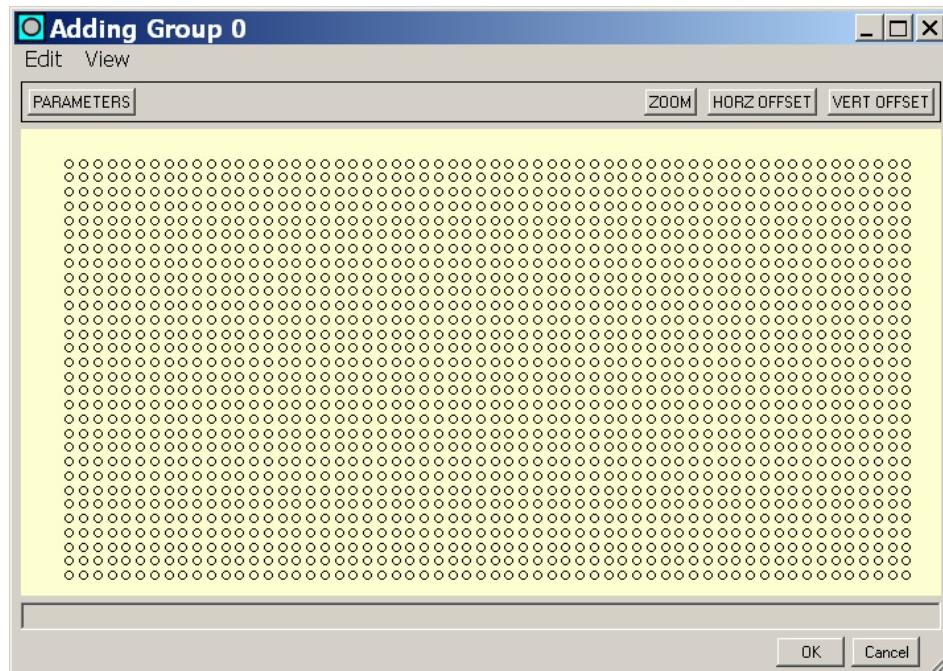
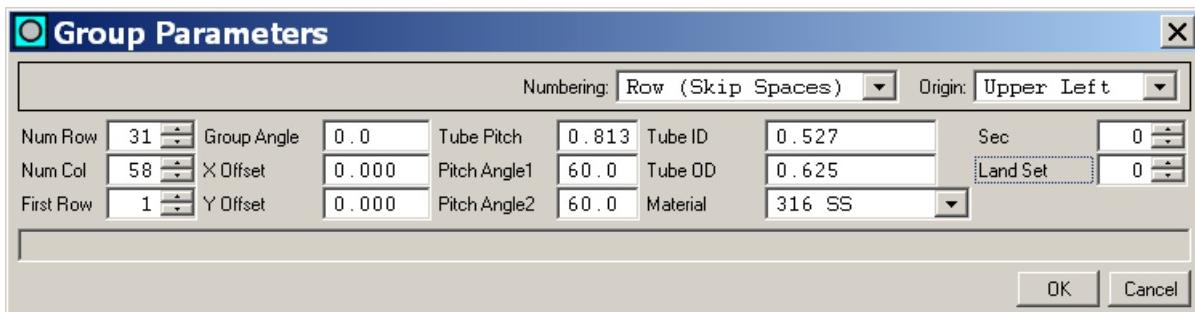
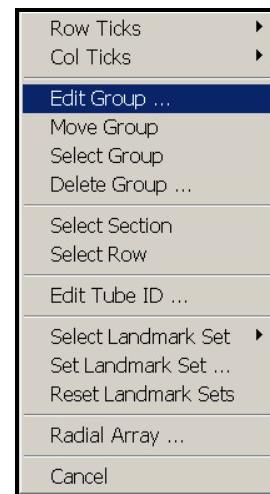

Figure 36. Adding Group Dialog
Figure 37. Group Parameters Dialog in the Adding Group Dialog
Figure 42. Popup Menu on Main MakeComp Window (Right-click Map)
Selecting the **ADD GROUP** button in Figure 21 causes the **Adding Group** dialog shown in Figure 36 to appear. The circles in the window indicate possible tube locations. A circle represents a *disabled* tube location on the *building grid* while a black filled circle indicates an *enabled* tube. This dialog is used to:
Clicking the **Parameters** button on the **Adding Group** dialog shown in Figure 36 causes the **Group Parameters** dialog shown in Figure 37 to appear. All the necessary details about a new group of tubes should be entered on this dialog before building the group; however, they can be entered anytime. These parameters define the building grid that will be created in the **Adding Group** dialog. Each parameter on this dialog is defined below. Please refer to Figure 37 as each parameter is described.
- **Num Row:** Enter a number slightly greater than the actual number of rows in the group of tubes being built. For example, the feedwater heater shown in Figure 1 has a total of twenty-one (21) rows in the inlet leg (lower half). For this group, a value of thirty-one (31) would work well in the **Num Row** field as shown in Figure 37. This value simply defines the number of rows that will be available on the resulting *building grid* in the **Adding Group** dialog. Any of these parameters on this dialog may be edited at anytime – even after the tubesheet map has been completed – in order to *fine tune* the final appearance of the main tubesheet map.
- **Num Col:** Enter a number slightly greater than the actual number of tubes in the longest row of the group being built. For example, the feedwater heater shown in Figure 1 has a total of forty-six (46) tubes in the longest row (*Row 3*) in the inlet leg (lower half). For this group, a value of fifty-eight (58) would work well in the **Num Col** field as shown in Figure 37. This value simply defines the number of columns that will be available on the resulting *building grid* in the **Adding Group** window.
The **HORZ OFFSET** button shown in Figure 36 allows the user to move enabled tubes to the left or to the right on the *building grid*. Care should be exercised when using this feature since enabled tubes will be deleted if moved beyond the perimeter of the *building grid*. The button is used as follows:
The **VERT OFFSET** button shown in Figure 36 allows the user to move enabled tubes up or down on the *building grid*. Care should be exercised when using this feature since enabled tubes will be deleted if moved beyond the perimeter of the *building grid*. The button is used as follows:
To duplicate an existing group of tubes, right-click the desired group on the tubesheet map displayed in the main **MakeComp** window, and select **Edit Group** from the popup menu as shown in Figure 42. Next, the selected group of tubes is displayed in the **Editing Group** dialog (essentially the same as the **Adding Group** dialog shown in Figure 36). Immediately click **Edit | Dupe Group**. This action duplicates and displays the newly duplicated group.
Typical changes may include the section number, the landmark set to be used for this group, the first row number in the new group, the origin, etc. Finally, click **OK** on both the **Group Parameters** dialog, and then the **Adding Group** dialog. The newly *duped* tube group now appears in the main **MakeComp** window. Use the **Move Group** feature on the popup menu in Figure 42 to move the new group to the desired location. The features of the popup menu are discussed in detail later in the **Popup Menu** topic.
- **Edit | Reset Landmark Sets:** Resets all tubes to their originally assigned landmark sets. This same selection is available on the popup menu in Figure 42. Using the **Set Landmark Set** on the popup menu in Figure 42 allows the user to assign existing or create new landmark sets for a single tube, individually selected tubes, group(s) of tubes, sections, or whole tubesheet maps. **Reset Landmark Sets** provides a way to reset all landmark sets to the way they were originally assigned in the **Group Parameters** dialog (Figure 37) when each group was *built*.
- **Enabling a Row of Tubes:** To *enable* a whole row of tubes at once on the *building grid*, position the cursor on the first tube in the row, enter the number of tubes in the row using the numeric keypad, and then press the **Insert** key on the keyboard. The specified number of tubes will be *enabled* in a positive direction based on the **Origin** selection in the **Group Parameters** dialog (see *Figure 37*).